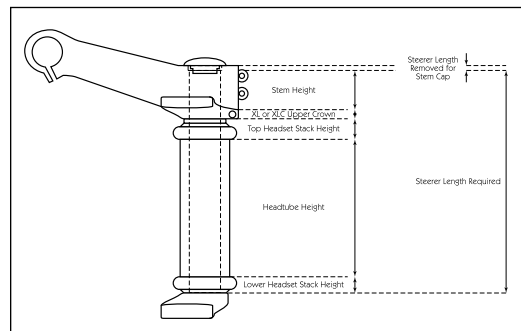

Fig. 2
3. The steerer tube may need cutting to proper length. To cut the steerer tube, removal of the upper tubes are required. This is necessary otherwise the upper tubes will be in the way when cutting the steerer tube to proper length. The steerer tube length is determined by the following parts: Judy XL upper crown steerer clamp length, stem steerer tube clamp length, frame head tube length and top and bottom headset stack height (see Fig. 2). To ease in the assembly, do not install the Judy XL upper crown on to the upper tubes until the steerer has been cut to the proper length and the lower crown has been fastened in the required position. **HINT: MEASURE TWICE AND CUT ONCE!**